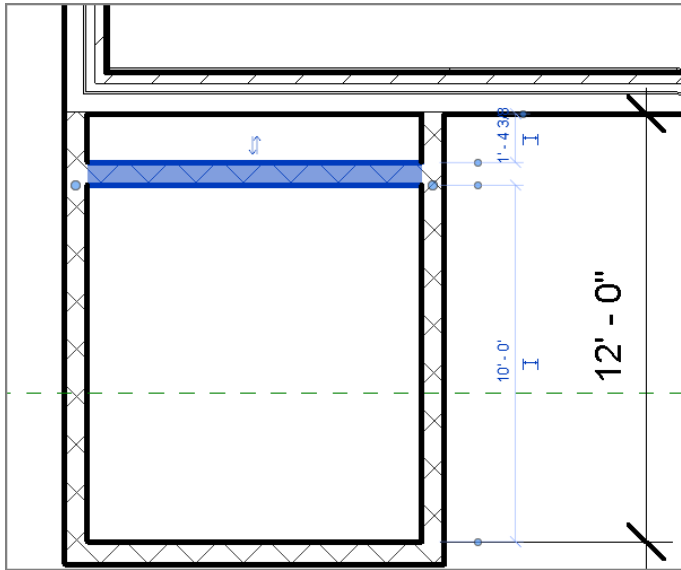

FIGURE 2.28: The shaft wall
You need one more shaft wall to create a separation between the exterior walls and the shaft, as shown in Figure 2.28. Perform these steps:
6. Press Esc twice. Figure 2.28 shows the shaft wall. Make sure that you check your dimensions before proceeding.